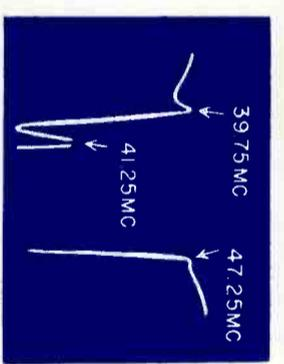

Fig. 24 Exploded View of Trap.
6. Adjust the 47.25 Mc, 41.25 Mc and 39.75 Mc traps for minimum marker amplitude. See Fig. 24. It can be seen that maximum oscilloscope gain has been used and as a result the top of the response curve has been "run off" the oscilloscope screen in order to see a "blow-up" of the trap slugs.